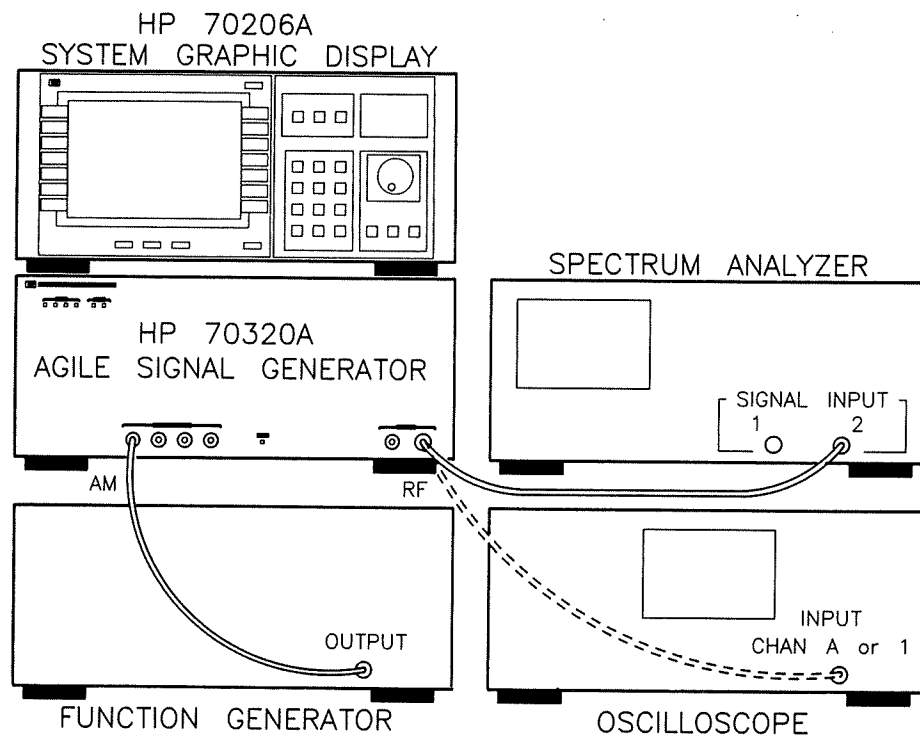

Figure 2-6. Equipment Setup for AM Procedure #2.
1. Connect the HP 70320A to the Spectrum Analyzer (or Oscilloscope) and Function Generator as shown in figure 2-6. Turn on the equipment and make the following adjustments: